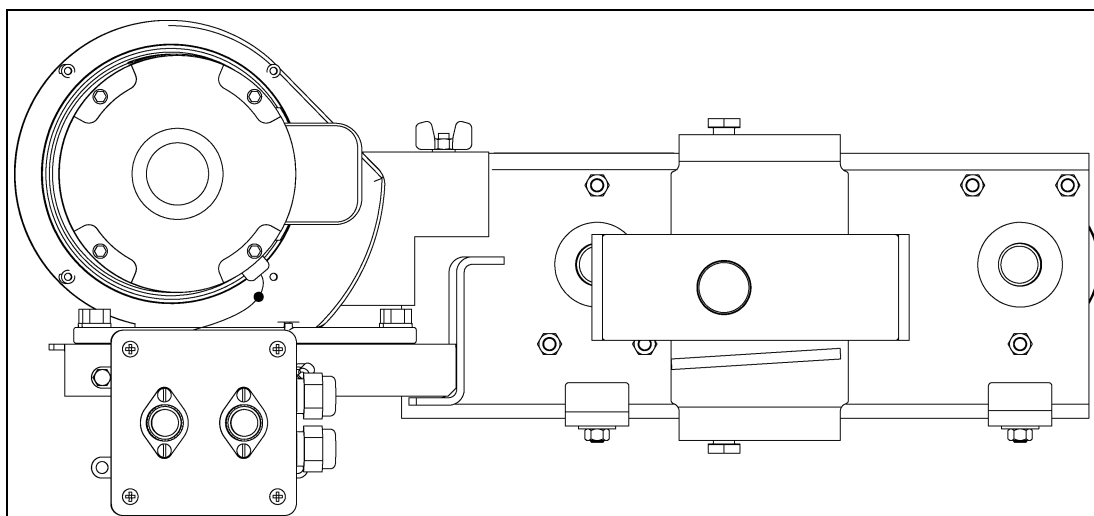

Figure 4M 2 HP
3. The outboard frame end has two (2) pivot positions. One is for the heavier 2 HP motors previously used with the 184Z frame. The other position is used for all 1-1/2 HP and the lighter 2 HP motors with the 182Z frames that are used today. If the pivot bar is on the bottom, it is set for the 1-1/2 HP or lighter 2 HP motors. No field changes should need to be made for current production machines. (See Figure 4M.)